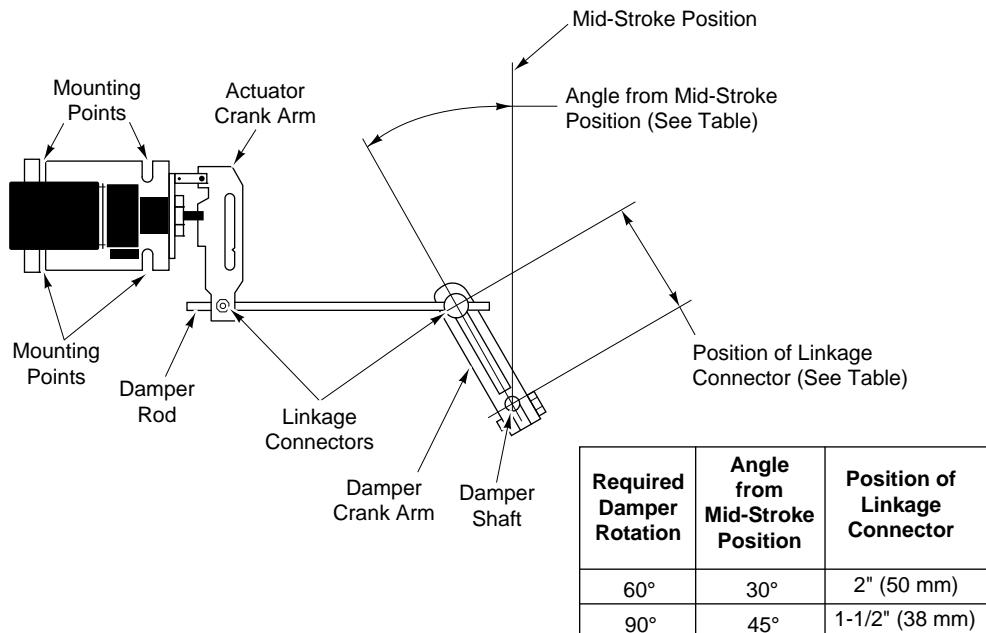

Figure-16 Recommended Actuator/Damper Mounting.
- c. If possible, select a mounting position such that, at mid-stroke, the actuator crank arm and the damper crank arm on the drive shaft are each at a 90° angle to the damper rod (refer to Figure-16). This is the recommended mounting position. It may be necessary to swivel the actuator linkage to arrive at this mounting location.
- 4. Mount a ball joint connector in the slot on the damper crank arm. To achieve 90° of damper rotation, position the connector 1-1/2" (38 mm) from the centerline of the shaft hole on the crank arm. For 60° of damper rotation, position the connector 2" (50 mm) from the shaft hole centerline. Typically, 60° to 70° of rotation (maximum is 90°) is sufficient to permit almost maximum air flow through the dampers. Refer to Figure-16 .
5. Rotate the damper to its open position. Install and secure the damper crank arm (with ball joint connector) to the damper shaft, positioning the crank arm as follows (refer to Figure-16):